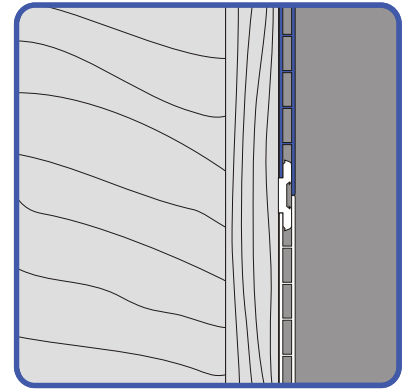

Figure 10
Step 9. Slide the next fascia around the exposed arms of the lower anchor biscuits (see Figure 10). Slide new anchor biscuits into the slot along the bottom of the fascia every 16". Secure each anchor biscuit to the rim joist with a 1½" deck screw. Continue adding fascia and anchor biscuits until the desired portion of the sub-structure is concealed.